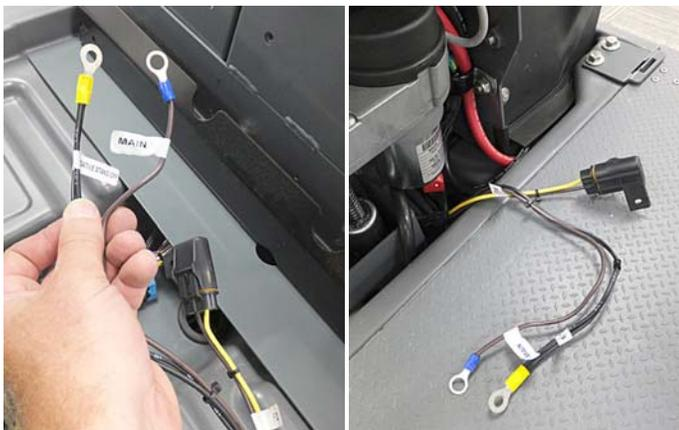

Fig. 11
8. Route the main and negative stand-off wires (D, E) under machine frame to control board area as shown (Figure 11).